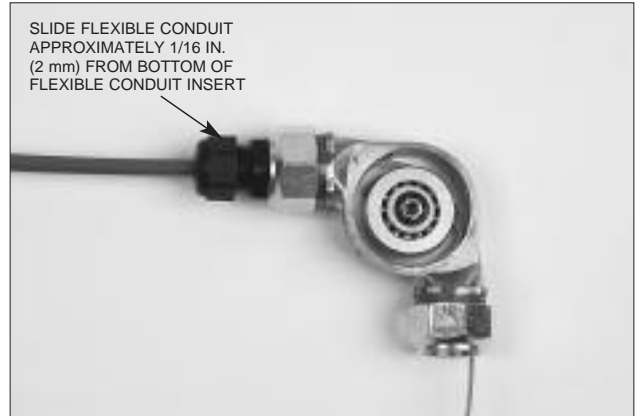

FIGURE 7
7. Slide the flexible conduit into the strain relief until it is approximately 1/16 in. (2 mm) from the bottom of the flexible conduit insert. See Figure 7.